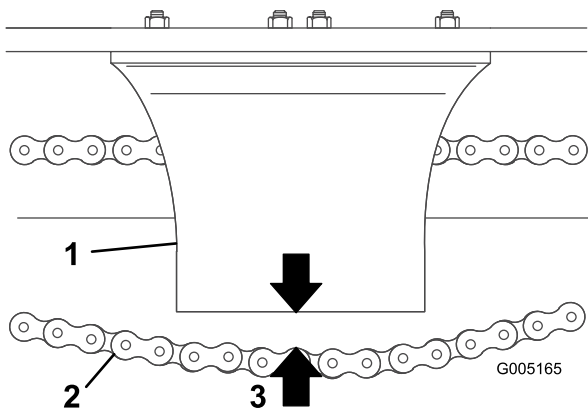

Figure 33
4. Measure the distance between the bottom of the chain guard and the lower chain span (Figure 33). If the slack in the chain is not within 1-1/2 to 2-1/2 inches (3.8 to 6.35 cm), adjust the tension (refer to Adjusting the Drive Chain Tension (page 31)).
6. Adjust the chain tensioning bolt until the distance between the bottom of the chain guard and the lower chain span is within 1-1/2 to 2-1/2 inches (3.8 to 6.35 cm) (Figure 33).